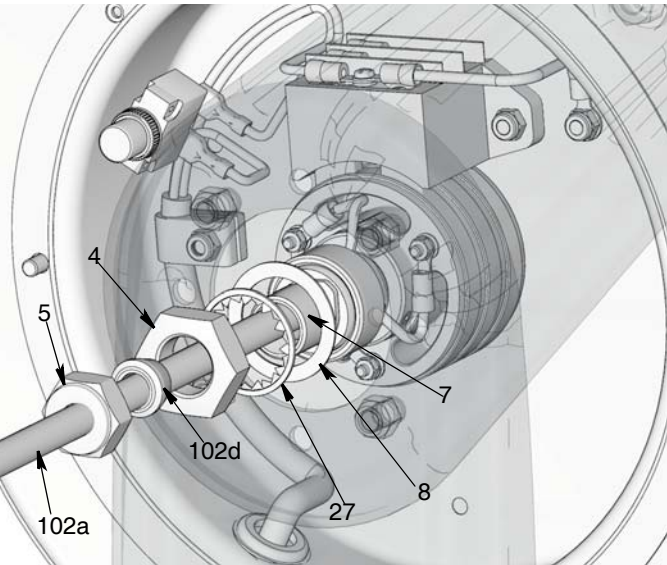

FIG. 16
- 1. Route power cord (102a) through strain relief nut (5), cord stop (102d), 34 mm hex nut (4), star washer (27) through pedestal arm, washer (8), and then through shaft (7). (FIG. 16)